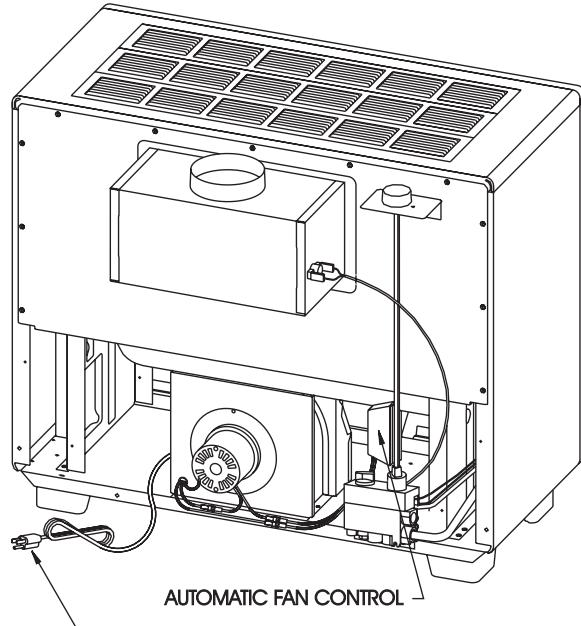

Figure 2
3. Align blower housing with blower cushion and use two #10 x 1 1/2" (13mm) hex-head screws to attach blower housing to bottom assembly. (See Figure 2)